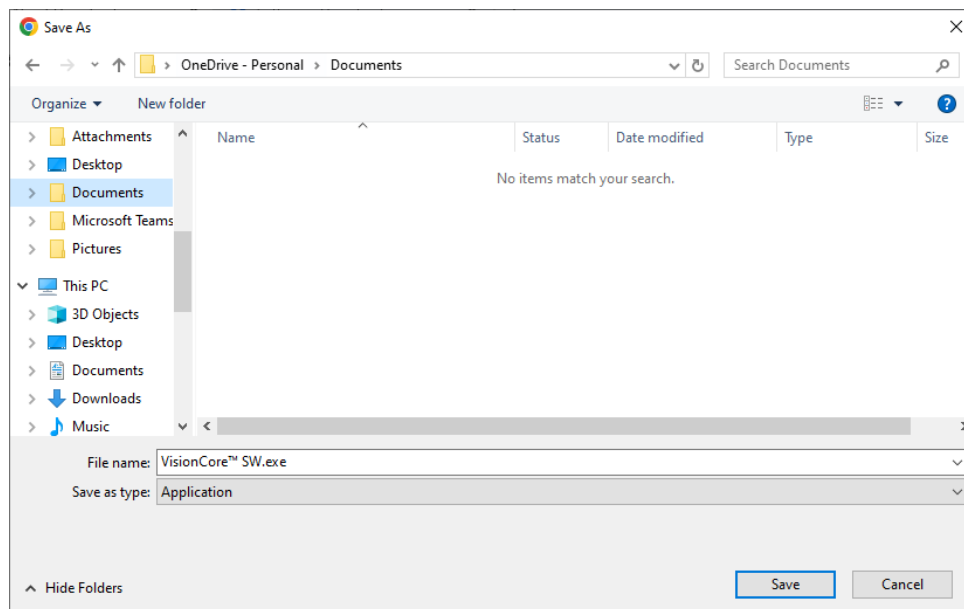

Figure 15. Save VisionCore™ Installer
5. When prompted, save the **VisionCore™ SW Installer** file to your PC (see *Figure 15*).